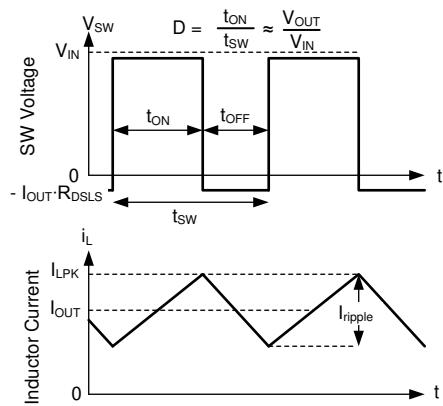

Figure 7-15. SW Voltage and Inductor Current Waveforms in Continuous Conduction Mode (CCM)
The following operating description of the LMR436x0-Q1 refers to Section 7.2 and to the waveforms in Figure 7-15. In CCM, the LMR436x0-Q1 supplies a regulated output voltage by turning on the internal high-side (HS) and low-side (LS) switches with varying duty cycle (D). During the HS switch on time, the SW pin voltage, V_{SW} , swings up to approximately V_{IN} , and the inductor current, i_L , increases with a linear slope. The HS switch is turned off by the control logic. During the HS switch off time, t_{OFF} , the LS switch is turned on. Inductor current discharges through the LS switch, which forces the V_{SW} to swing below ground by the voltage drop across the LS switch. The converter loop adjusts the duty cycle to maintain a constant output voltage. D is defined by the on time of the HS switch over the switching period: